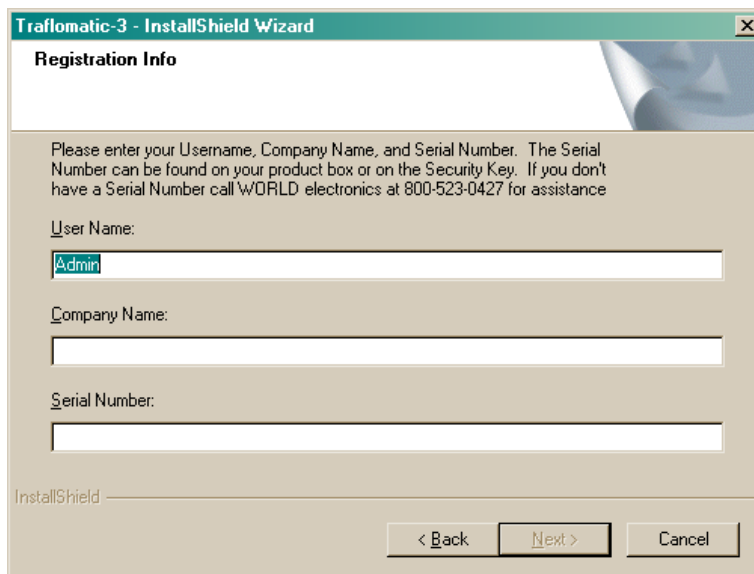

Figure 7
3. After selecting **Next**, a **Registration Info** window will appear as in Figure 7. In this window the user will need to fill in the fields beside **User Name:**, **Company Name:**, and **Serial Number:**. The Serial Number can be obtained from a label located on the Trafromatic-III and IV Module's Security Key. A second location where the serial number can be found is the side of the Trafromatic-III and IV Software Module's Product Box.